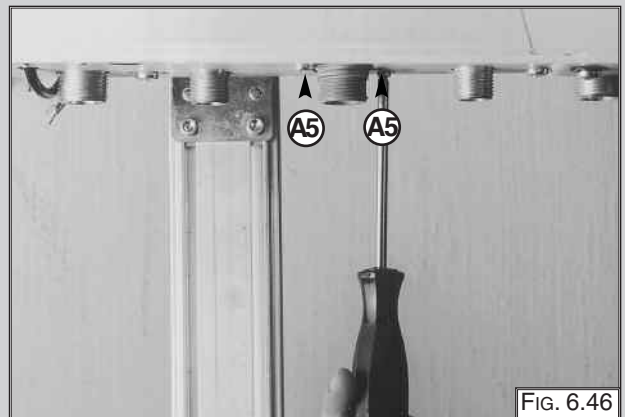

FIG. 6.46
4. Remove the screws "A5" from the bottom of the gas valve (FIG. 6.46);